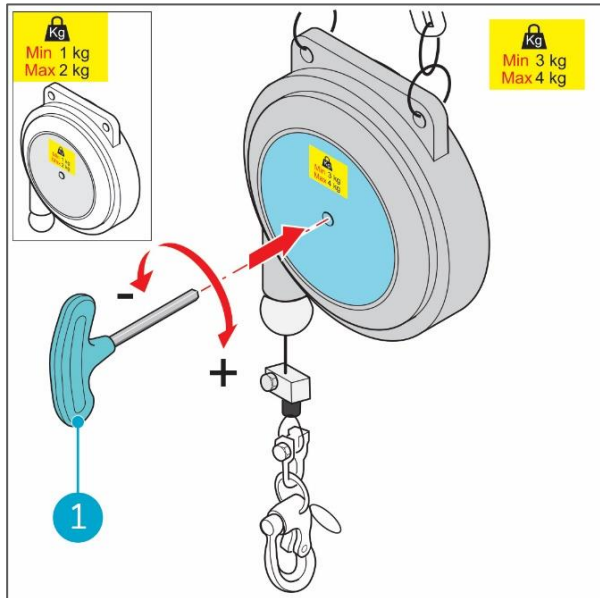

Figure 8
- Insert the Allen key in the opening of the pulley (Figure 8, pos. 1) and press it firmly.